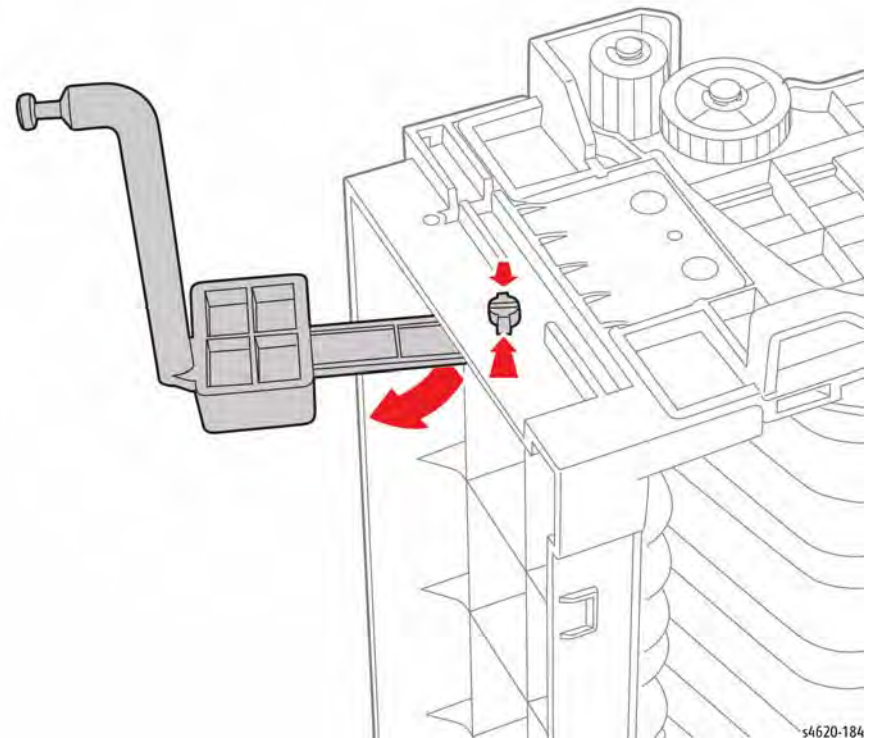

Figure 1 Remove the Media Level Indicator
3. Remove the indicator from the tray by releasing the hooks from the tray, Figure 1,